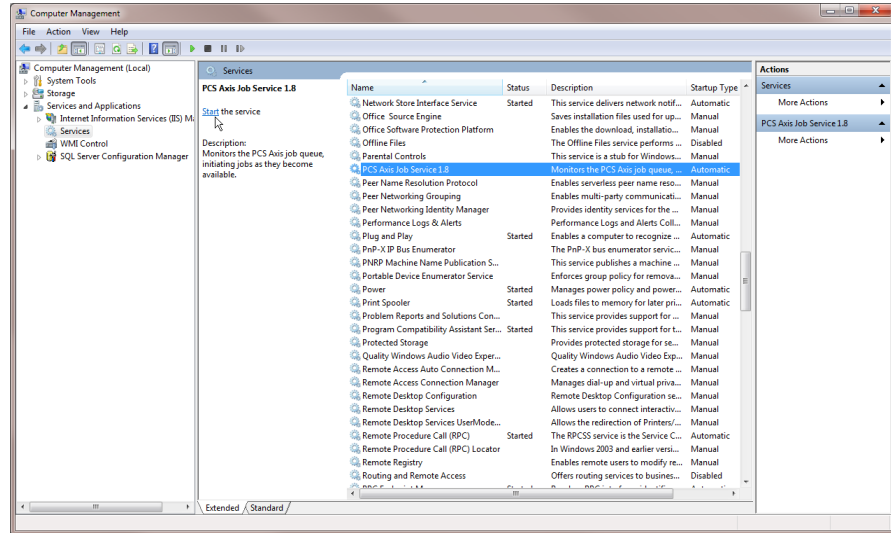

Figure 11-5. Computer Management Console
- a Click the Windows **Start** button  and navigate to *Computer*. Right-click **Computer** and select **Manage** in the shortcut menu to open the *Computer Management* console (Figure 11-5, page 570).